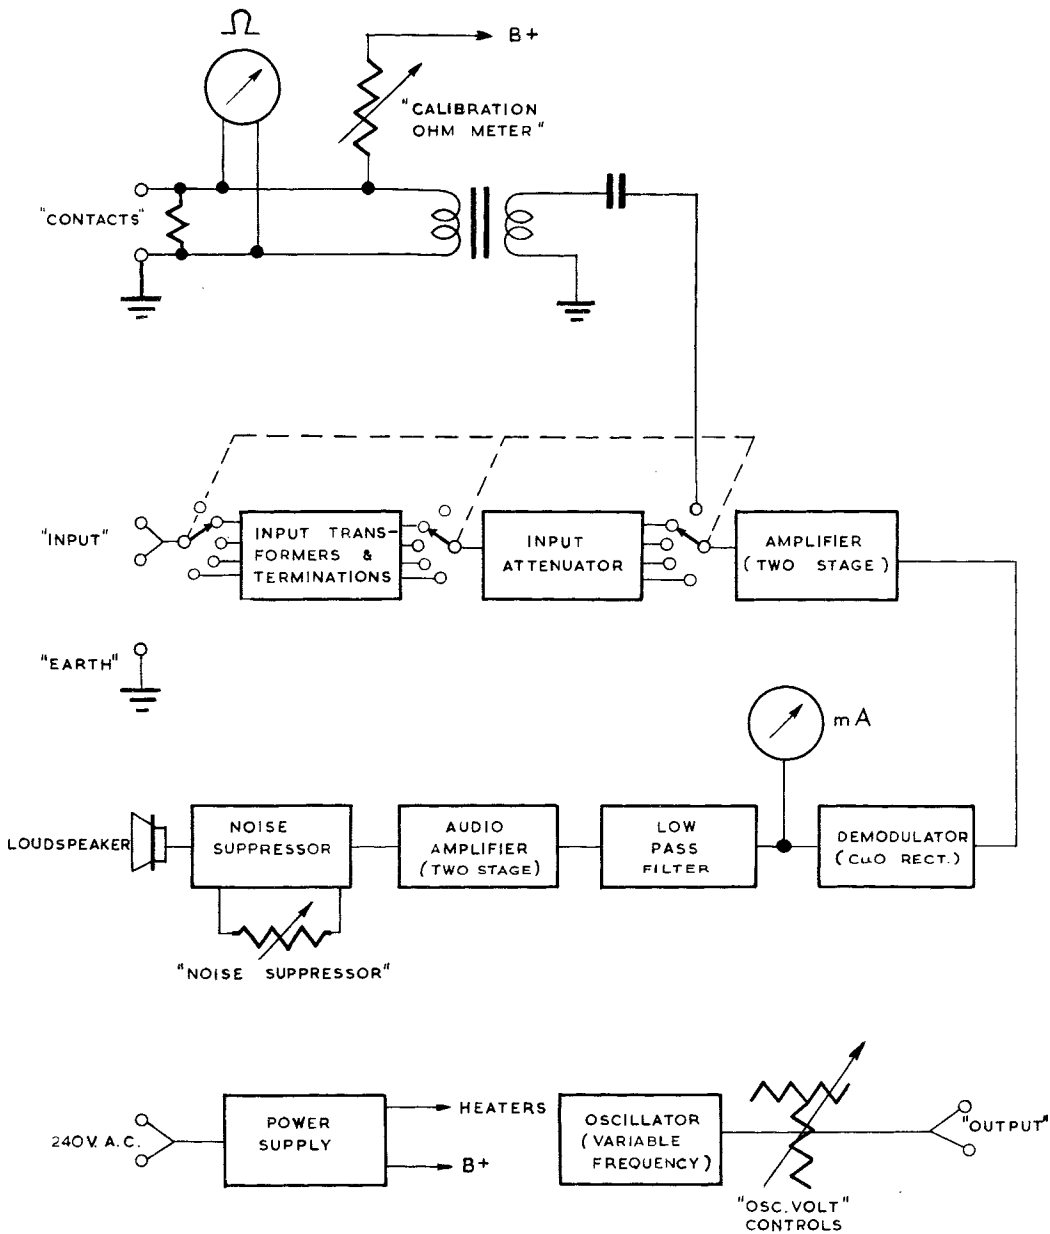

FIG. 1 BLOCK SCHEMATIC OF VIBRATION TESTER
- 2.1 The equipment consists of an oscillator and a receiver. Refer to Figure 1, Block Schematic.